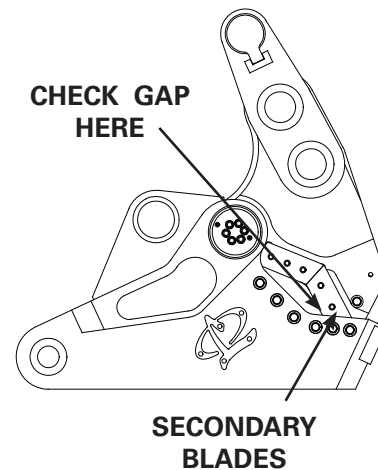

FIGURE 5-14
1. To check for blade gap, close the shear until the secondary blades in the upper and lower shear begin to bypass (see figure 5-14). Start with the thickest shims and check to see how many shims can be slipped between the blades and record this amount. Another method is to use a feeler gauge to check the blade gap and record it.